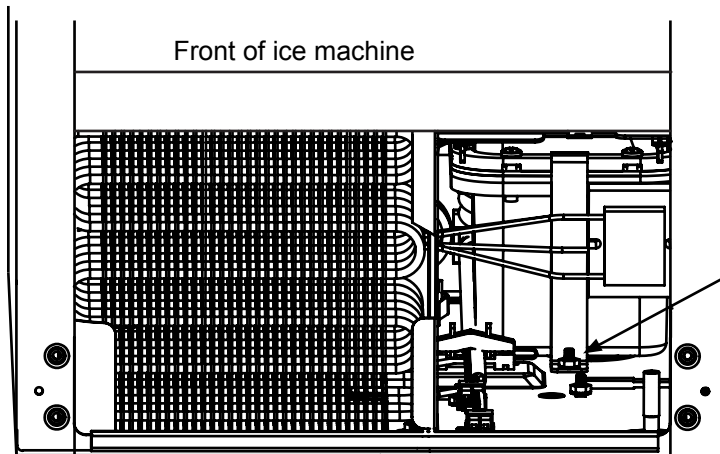

Figure 38
3. Remove the front and rear drain pump brackets. See Figures 38, 38a and 39.